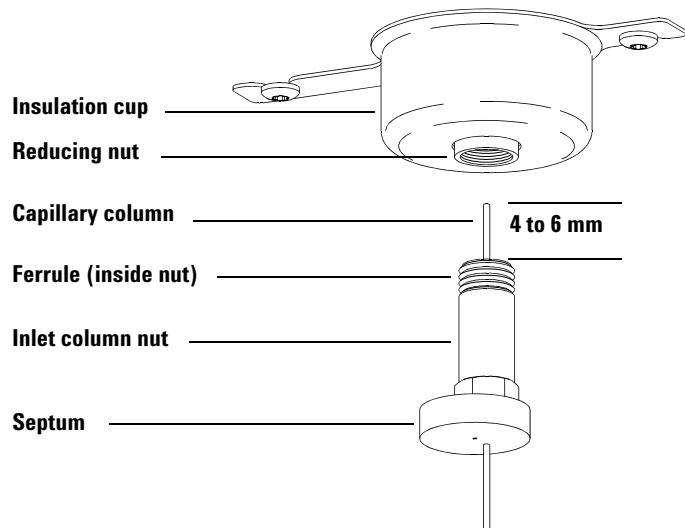

Figure 3 Installing a capillary column for a split/splitless inlet
- 2** Position the septum under the column nut so that the column extends 4 to 6 mm past the end of the ferrule (**Figure 3**).